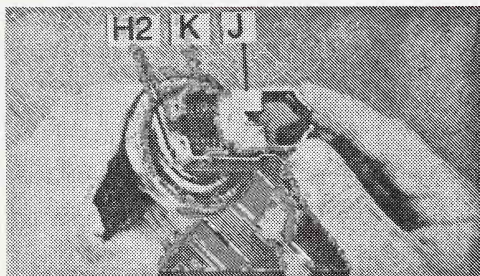

Fig. 10-35.
3. Refer to Fig. 10-35. Place the springs (K) into the slide (J) and assemble both into the frame, positioning the free ends of the springs on the ears (H2) of the lock frame. Be sure the bridge of the slide is facing you, as shown.